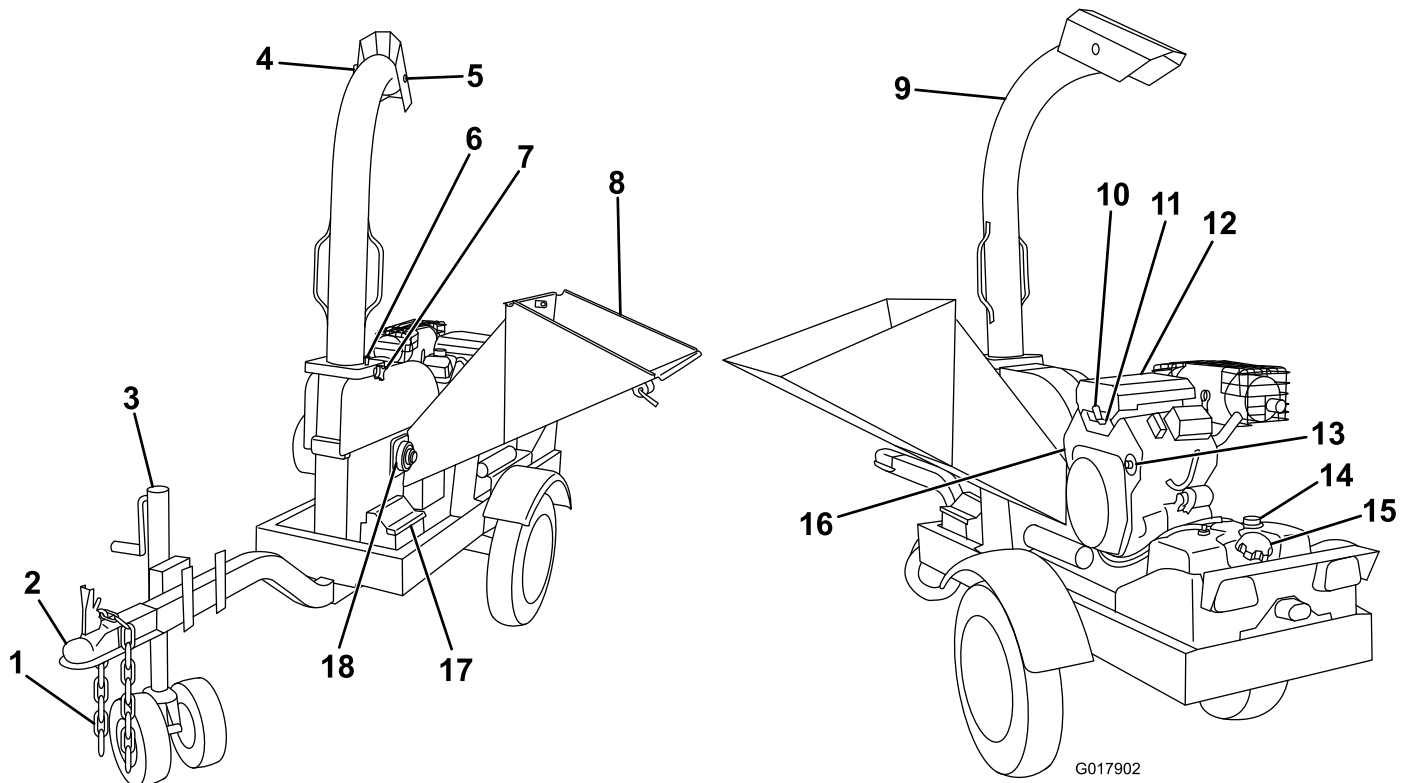

Figure 3
1. Raise hopper and lock into the up position. Rotate the chute toward the rear of the machine, lock in position with the chute locking pin and tighten chute locking knob (Figure 3).